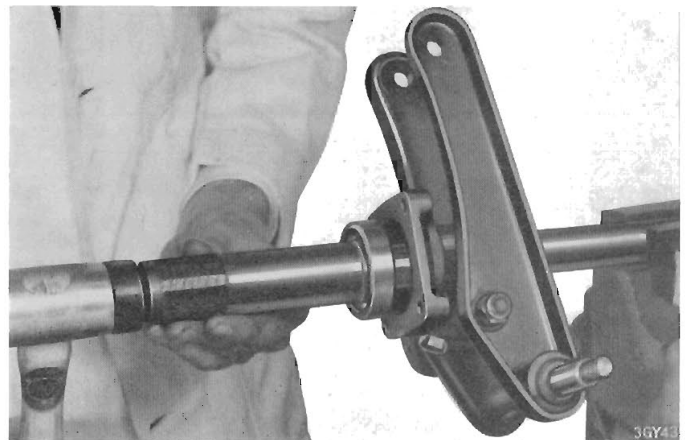

Fig. 11. Using Churchill driver S4221A/6 to drift the ball race on to the shaft
5. Secure the axle shaft in the protected jaws of a vice, pack the ball race with grease and drift it on to the shaft as shown on Fig. 11.
6. With the sealing lip trailing, press a new seal (19) into the seal housing (20). Coat a new paper joint (18) with grease, position it on the trunnion outer face, and assemble the seal housing, brake back plate assembly (21) (with wheel cylinder at the top) and grease trap (22) (with duct to bottom). Secure the assembly with bolts (24) and new lockplates (23).
7. Insert the key (15) into its keyway in the axle shaft and, ensuring that the tapers are clean, fit the hub (25) and secure it with a plain washer (26) and nyloc nut (27).
8. Secure the brake drums with the countersunk screws and refit the hub cap (28).
9. Complete the trunnion assembly by fitting the nylon bushes (12), steel sleeve (13), rubber seals (11) and vertical link (8).